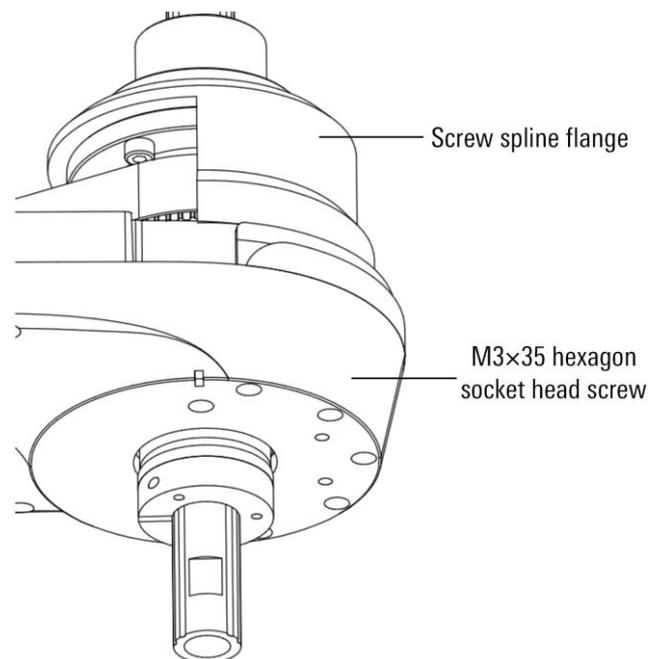
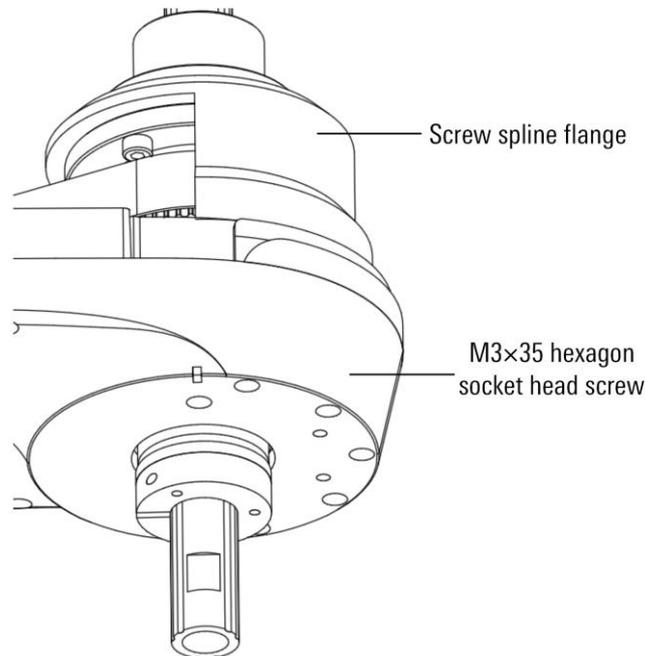

Figure 8-9 Schematic diagram of disassembling screw spline flange
Figure 8-15 Schematic diagram of disassembling screw spline flange
- Step6. Use an Allen wrench to remove the five M3×35 hexagon socket head screws for mounting the screw spline flange from the lower end of the forearm, and move the screw spline flange upward, as shown in Figure 8-9.
Step5. Use an Allen wrench to remove the five M3×35 hexagon socket head screws for installing the screw spline flange from the lower end of the forearm, move the screw spline flange upward, and remove the fixed screw spline method from the lower end of the forearm The five M3 screws used for the flange are shown in Figure 8-9, and the screw spline flange is removed upward, as shown in Figure 8-15.